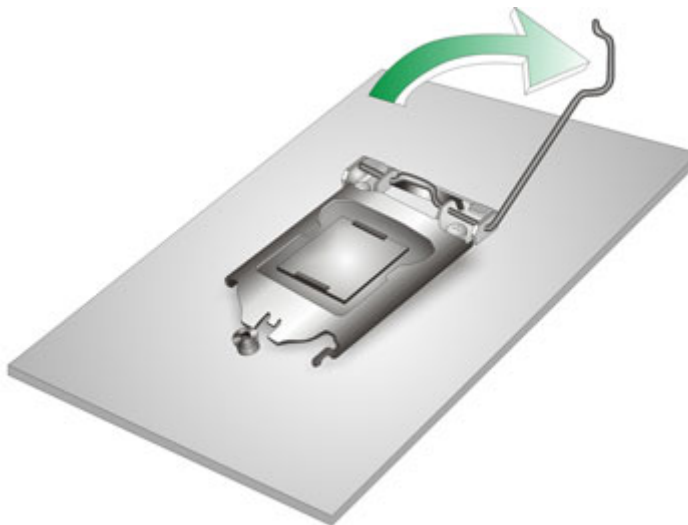

Figure 4-1: Disengage the CPU Socket Load Lever
Step 1: Disengage the load lever by pressing the lever down and slightly outward to clear the retention tab. Fully open the lever. See **Figure 4-1**.